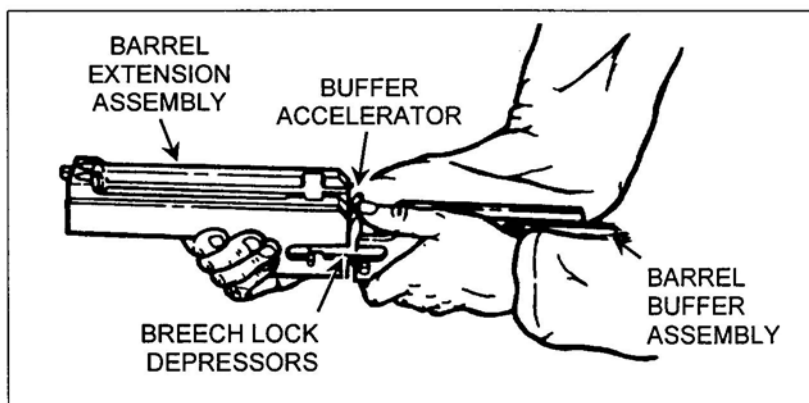

Figure 28. Attachment of the barrel buffer and barrel extension assemblies.
- (2) Align key on barrel buffer assembly with key slot in barrel buffer body and slide barrel buffer assembly into barrel buffer body.
- (3) Hold the barrel buffer assembly with the buffer accelerator up and engage the notch on the shank of the barrel extension assembly with the cross groove in the piston rod of the barrel assembly (Figure 28).